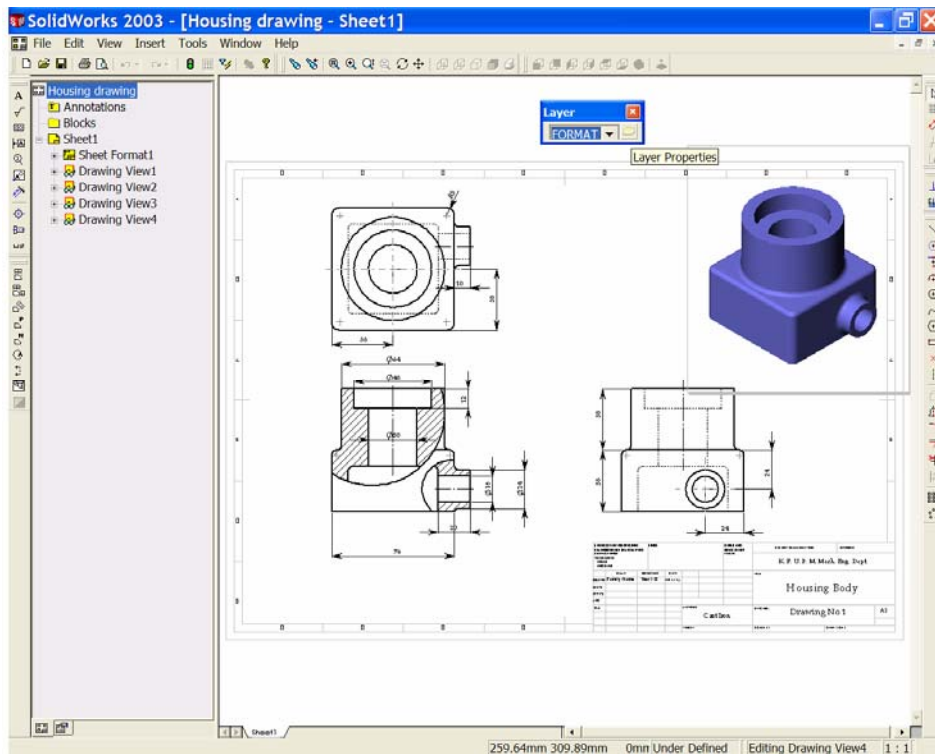

Figure 2
3. Open the layers **Property Manager**, Figures 2 & 3.